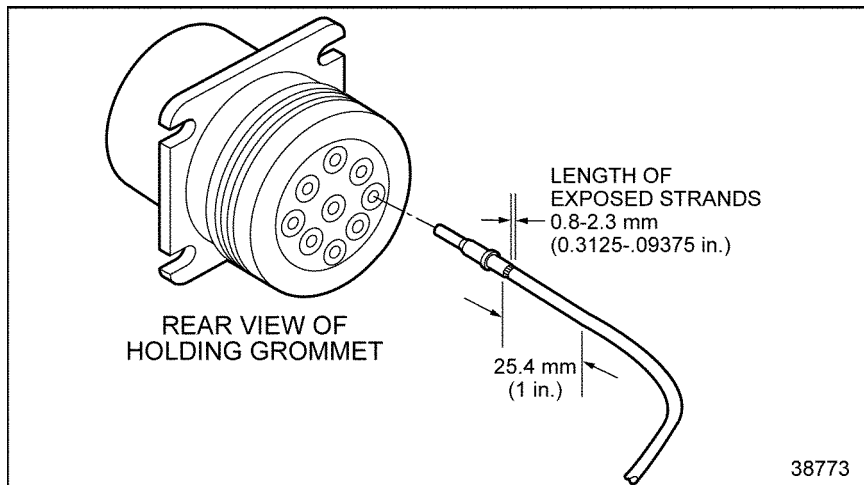
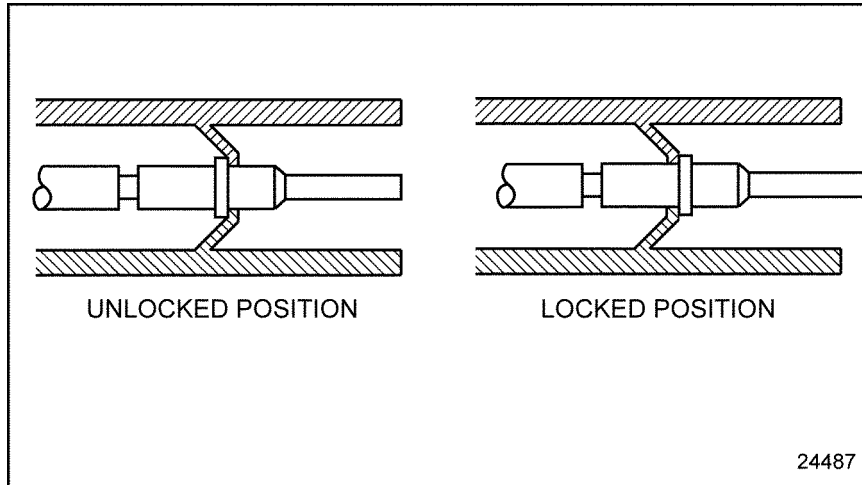

Figure 2-10 **Pushing Contact Into Grommet**
Figure 2-11 Locking Terminal Into Connector
5. Grasp the contact approximately one inch behind the contact crimp barrel. Hold the connector with the rear grommet facing you. See Figure 2-10.
6. Push the contact into the grommet until a positive stop is felt. See Figure 2-10. A slight tug will confirm that it is properly locked into place. See Figure 2-11.